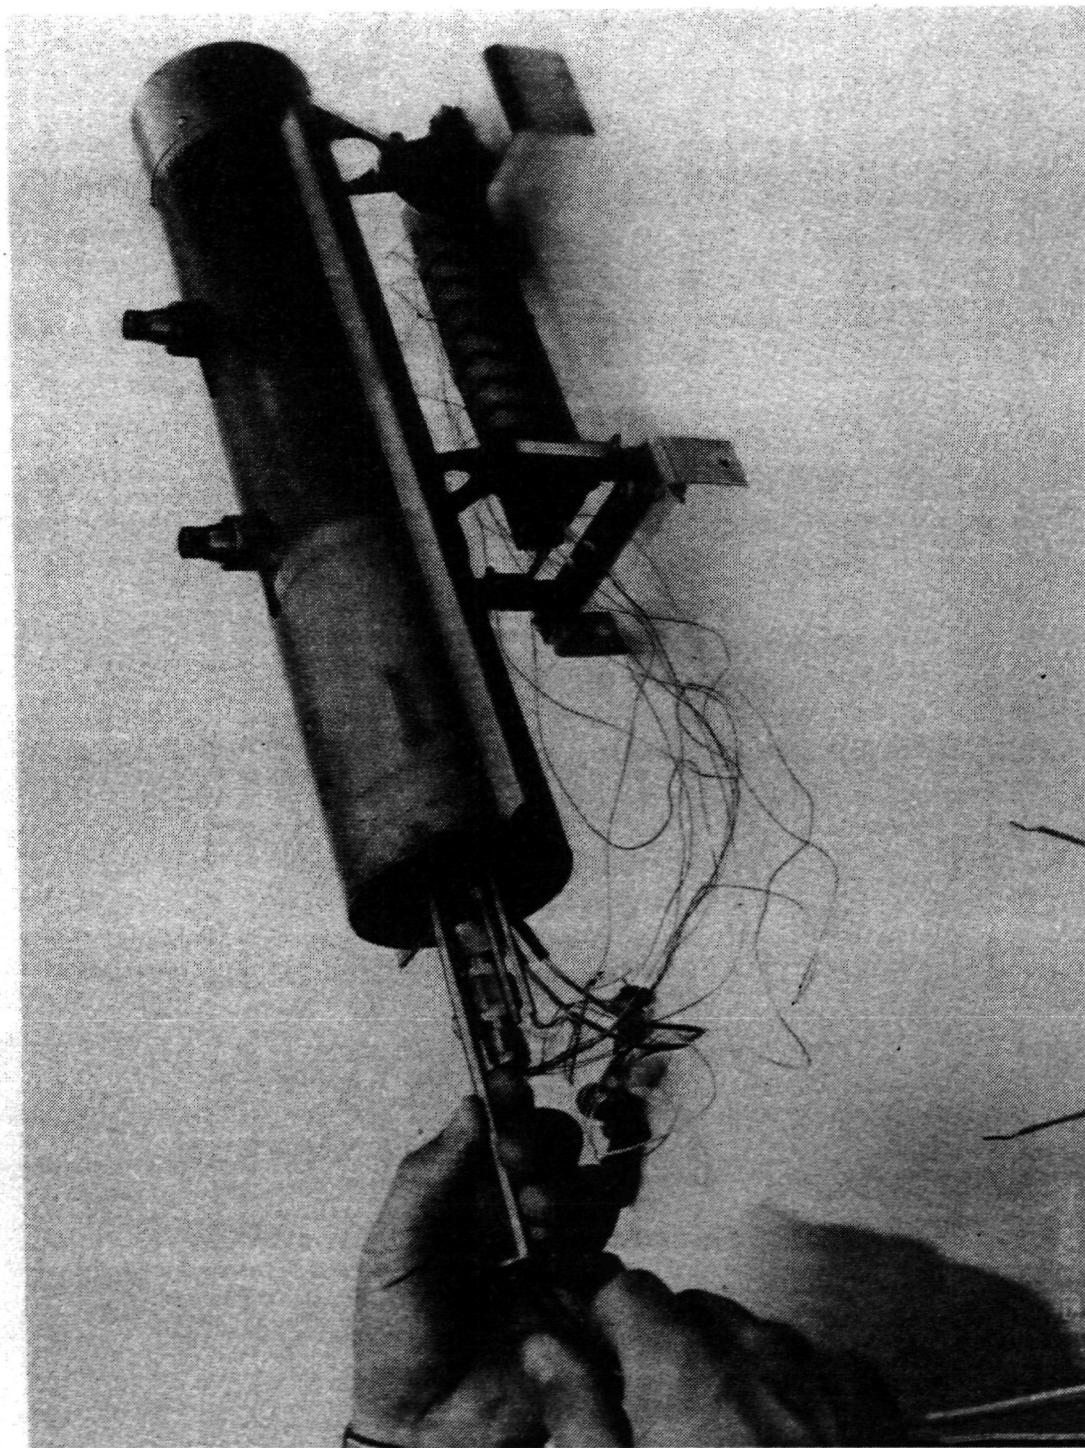

FIGURE 15
1. Remove two (2) screws with 1/8" Allen wrench. Remove heater from reactor. Use care so as not to damage thermocouple wire leads. (Figure 15)
1. Insert heater into reactor, insert two (2) screws and tighten with 1/8" Allen wrench. (Figure 15)